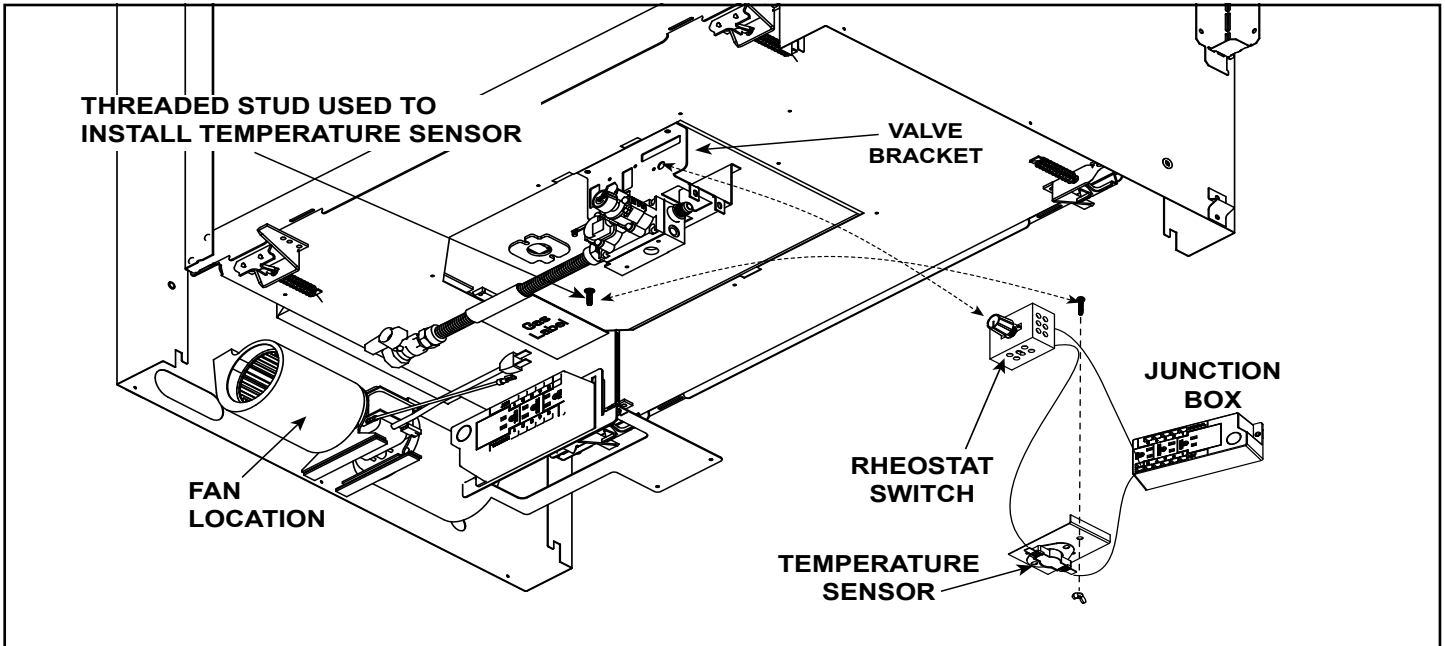
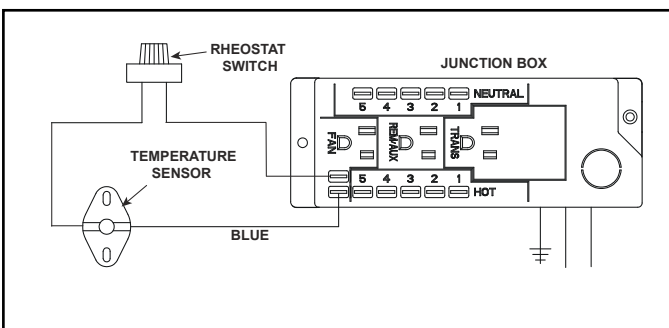

Figure 8.4 Fan Location, Fan and Rheostat Wiring
Figure 8.5 Detail of Fan Wiring with Rheostat
1. Install and wire the fan in appliance as shown in Figure 8.4 and Figure 8.5.
2. Locate the fan as shown in Figure 8.4.
If the fan will not be installed for operation with the IFT-RC400, the temperature sensor will need to be installed. See Figure 8.4 for location of the temperature sensor and fan control.
- Install rheostat switch in location as seen in Figure 8.4.
- Connect temperature sensor switch wire and rheostat switch wires to junction box as shown in Figure 8.5.